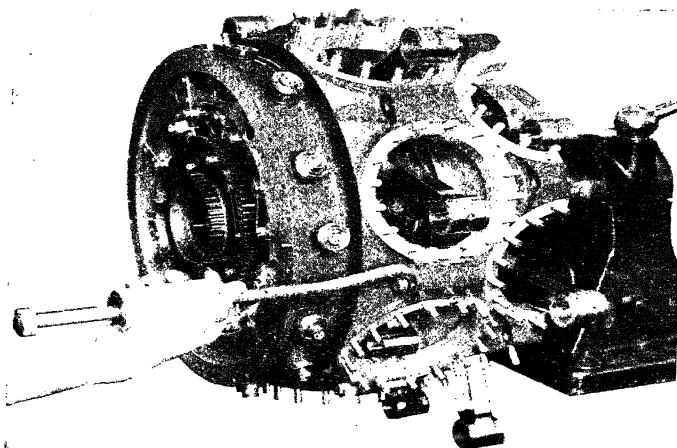

FIG. 11.—Puller for removing bolts. Notice special bench stand for crankcase.
**Drive Gear Bracket.**—After the nut is removed, the drive gear bracket is removed with the puller (Fig. 11). Before removing the drive gear bracket and bearing, be sure that the bevel propeller drive gear has been removed from the end of the cam reduction gear shaft. After the drive gear bracket has been removed, the anchor plate may be dismounted by removing the three retaining screws. If the anchor plate is difficult to remove, it may be broken loose by the use of a padded L-shaped piece of bar stock, applied through one of the lightening holes in the anchor plate.
Special tools and wrenches are provided for disassembling and assembling reduction gears of the various ratios. There are also special stands, such as shown in Fig. 11, that make it easier and safer to handle the different parts. Figure 11 also shows the use of the puller for removing the bolts that hold the two sections of crankcase together.